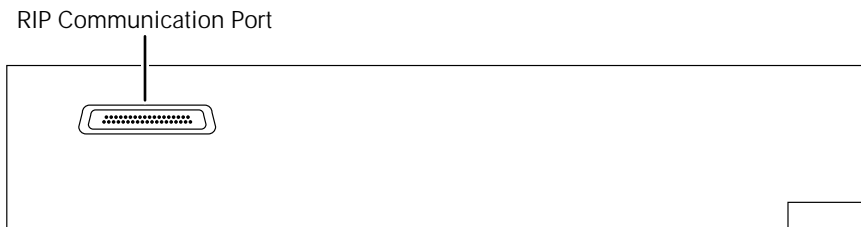

Figure 1.4. The AccuSet I/O panel for systems with external RIPs.
- If you have an external RIP, there is one port. See Figure 1.4.